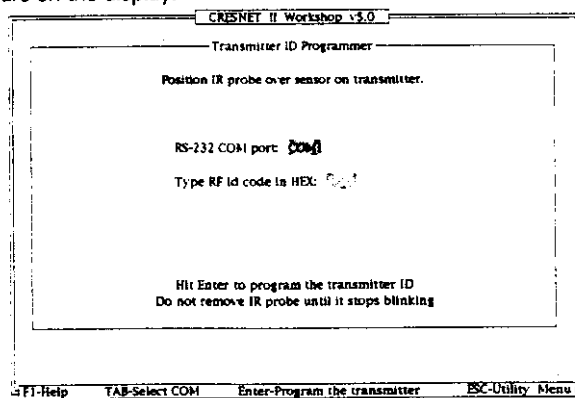

Figure 5. Transmitter ID Programmer, Workshop
4. From the UTILITY MENU, highlight TID and depress ENTER. The Transmitter ID Programmer, illustrated in figure 5, appears on the display.